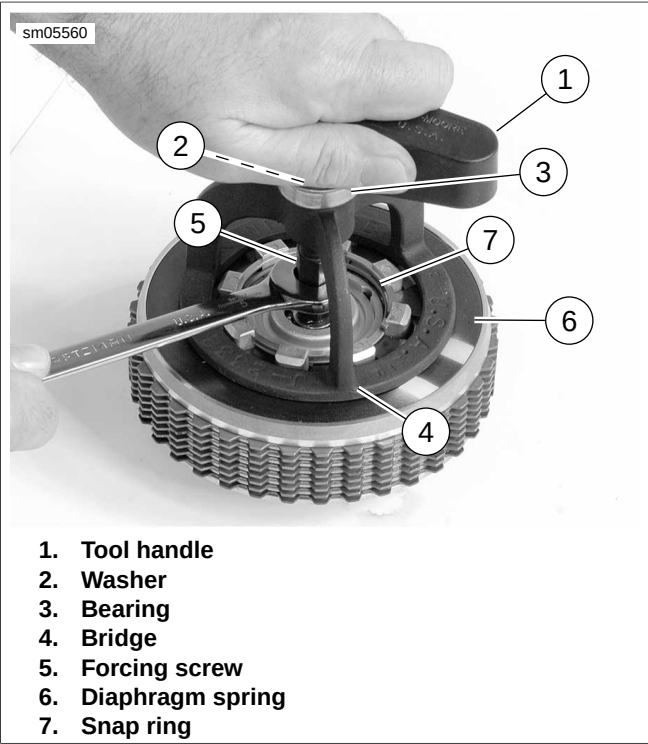

Figure 5-38. Compressing Diaphragm Spring: XR Models
See Figure 5-38. Turn compressing tool handle only the amount required to install spring seat and snap ring. Excessive compression of diaphragm spring could damage clutch pressure plate.
- c. See Figure 5-38. Install SPRING COMPRESSING TOOL (Part No. HD-38515-A) onto clutch hub against diaphragm spring.